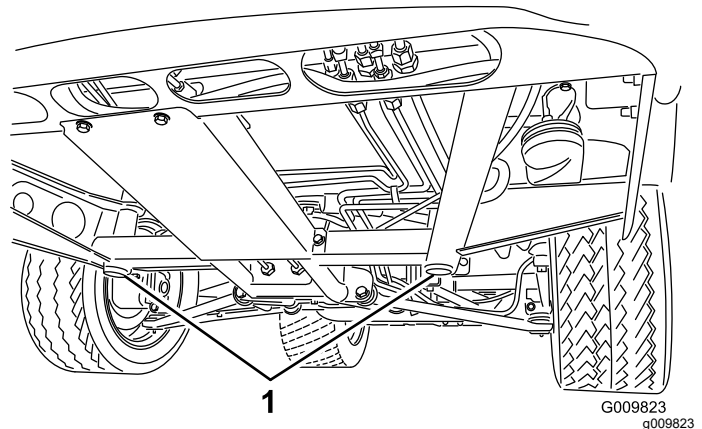
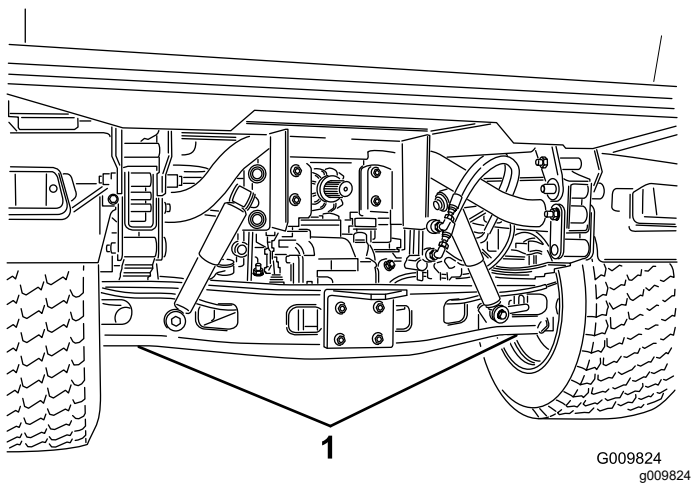

Figure 37
Figure 38
- The jacking point at the front of the machine is under the front center frame support (Figure 37) and at the rear it is under the axle (Figure 38).